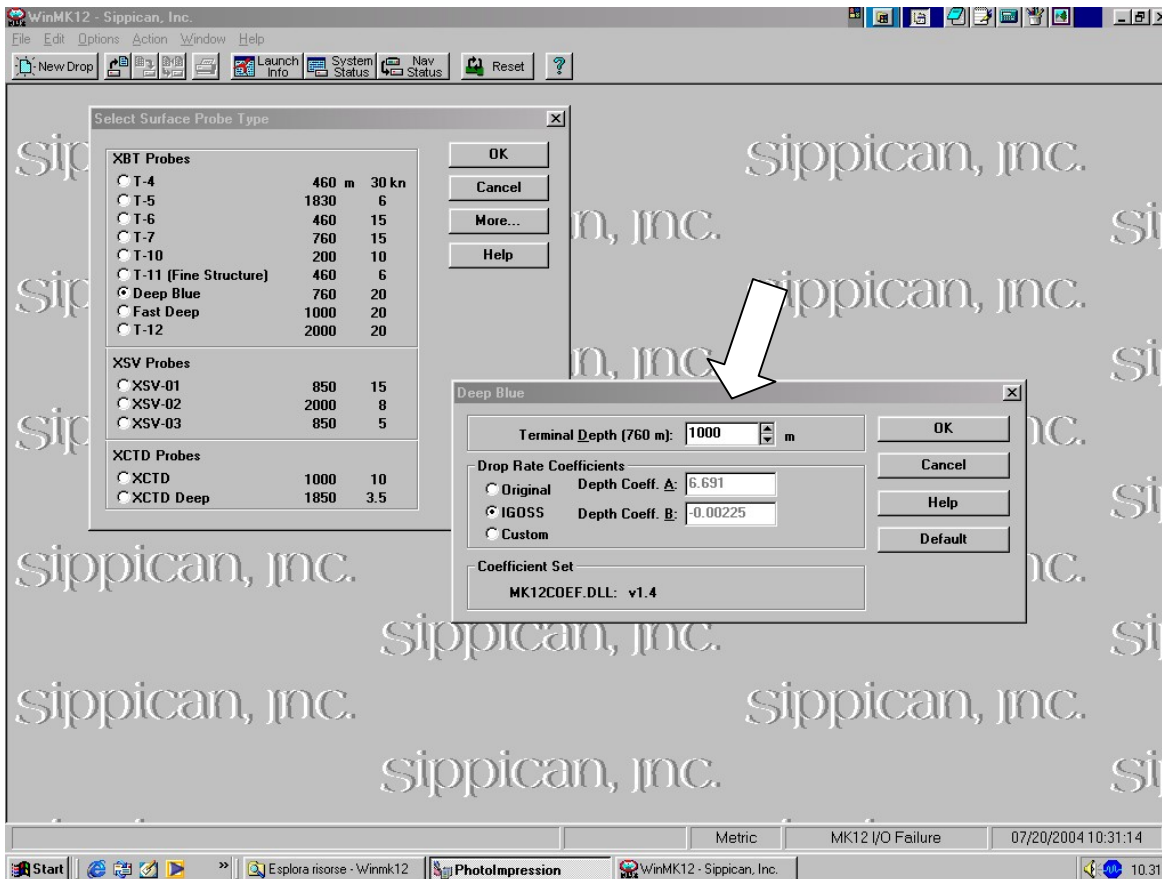

Figure 1. Setting the **Terminal Depth**. Check also the use of **IGOSS Drop Rate Coefficients**.
1. Extended use of XBT wire. This can be obtained by setting the terminal depth in the Sippican software. This has to be done by clicking **Options**, then **Probe**, select the probe type (e.g. Deep Blue), click **More** and set **Terminal Depth** to **1000 m** (see figure 1). The new terminal depth will be written in red in the 'XBT Probe' window. In case the temperature value is higher than 32°C, or has negative values, stop the data acquisition.